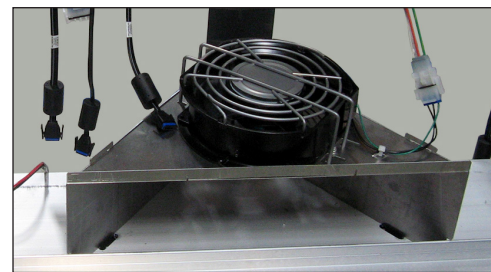

Figure 28: Display Fan
2. Push in on the sides of the finger guard and rotate it to remove the fan. Refer to **Figure 28**.
6. Attach harness to the fan plenum using a cable tie. Refer to **Figure 28**.